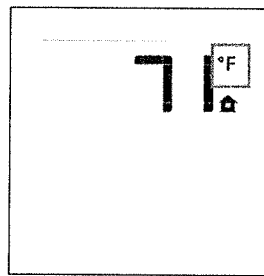

Figure 57. Room temperature readings
- With the transmitter in the OFF position, press the Thermostat Key and the Mode Key at the same time. The display screen will show the current room temperature cycling between Fahrenheit and Celsius indicators each time the keys are pressed simultaneously. See fig. 57.